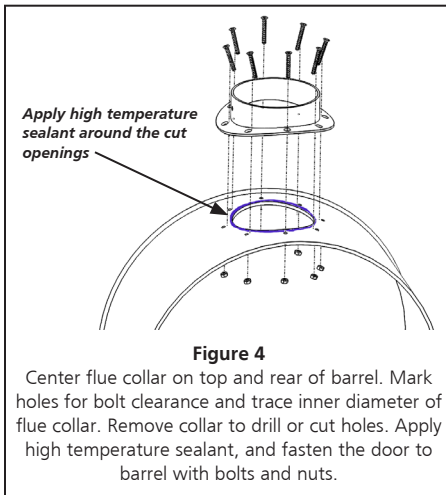

Figure 4
- Secure the flue collar with the 6 included bolts. (Figure 4).
Center another barrel on to top. Adjust so that back ends of barrels are aligned. Mark on barrel surface holes for leg bolts and also where the barrel contacts stove pipe, then cut a hole and install flue collar to that location as described in figure 4. Repeat on the opposite side and end of the barrel.